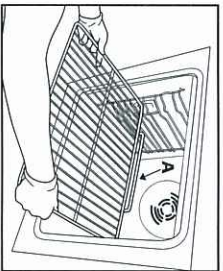

Fig. 1
1. Insert the wire shelf horizontally, with the raised part "A" upwards(fig. 1).